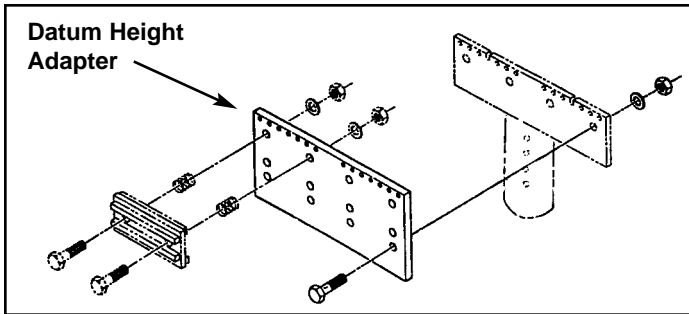

Figure 10
**NOTE:** Insertion of pin in top pinning hole (1A) positions vehicle at specified datum height for UMS measuring. Other pinning holes provide additional height adjustment. Also, optional datum height adapters (see Figure 10, page 5) can be used to elevate vehicle either 2 inches (51mm) or 3 inches (76mm). These adapters allow measurements to be taken without removing suspension components.